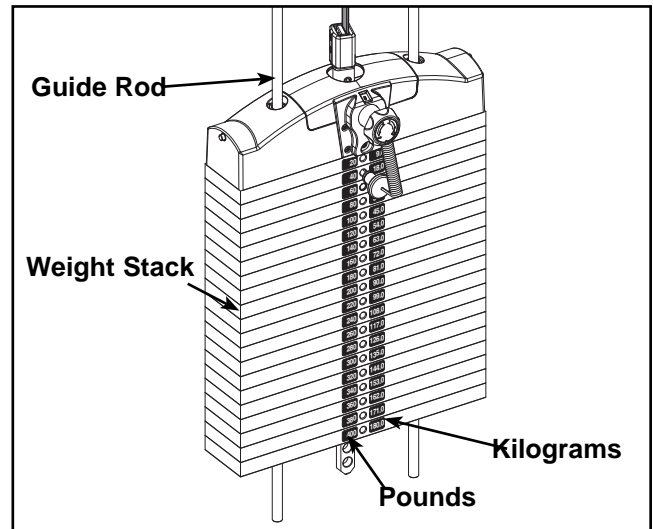

Figure 15
- E. Carefully remove front side, leaving decals adhering to weight plates. See Figure 15.